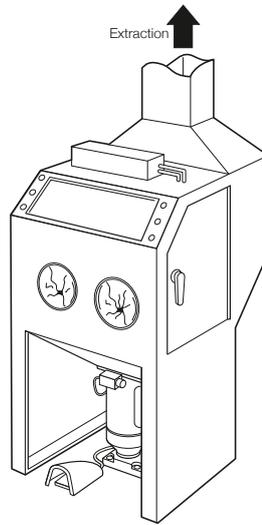

Figure 1 Shot-blasting cabinet for smaller castings
- ✓ For shot blasting of small castings use a fully enclosed and extracted shot-blasting cabinet (see Figure 1).